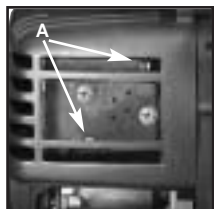

Fig. 4-5A
1. Remove the 2 small muffler screws (A) (Figure 4-5A).
1. Déposer les deux petites vis du silencieux (A) (Figure 4-5A).